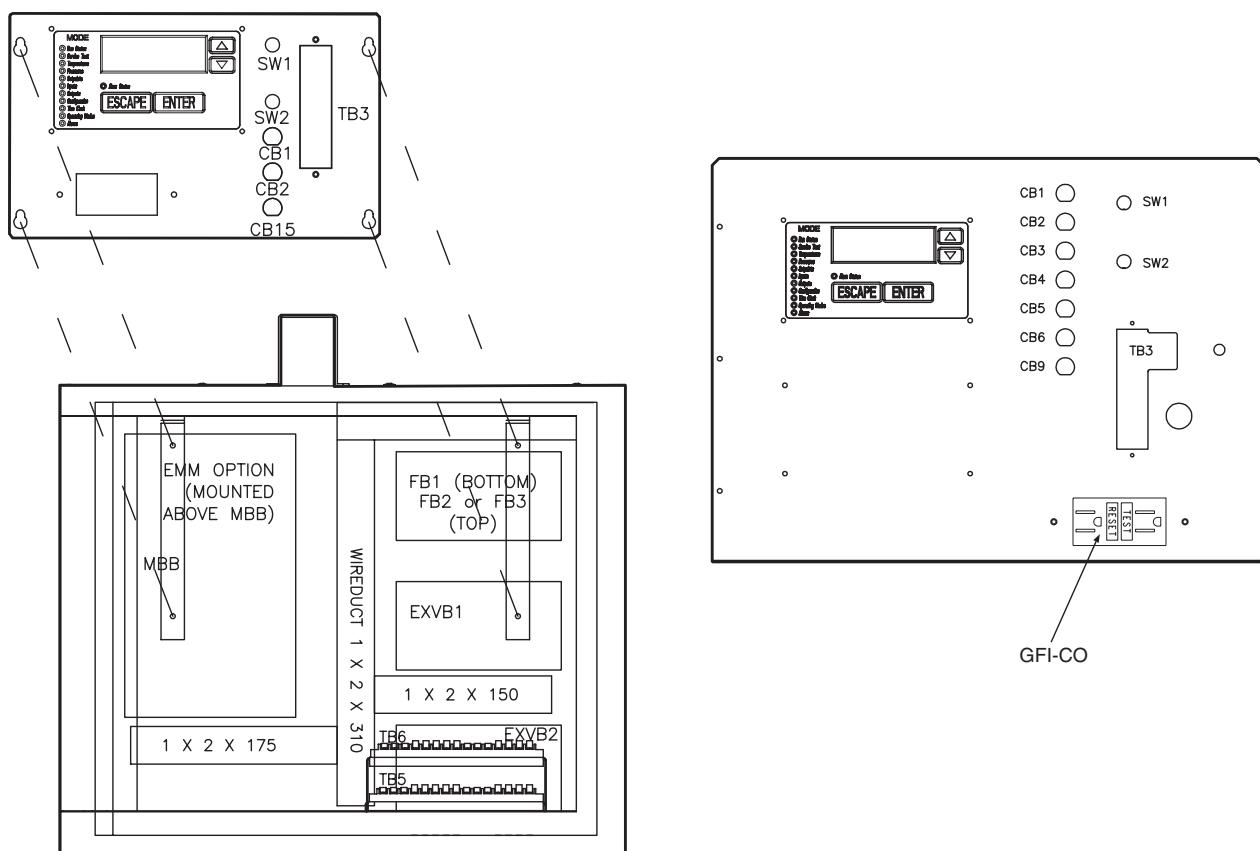

Fig. 3 — Scrolling Marquee Display with Bracket
4. Locate the control box where the Scrolling Marquee is installed. Open the unit control box door. See Fig. 3.